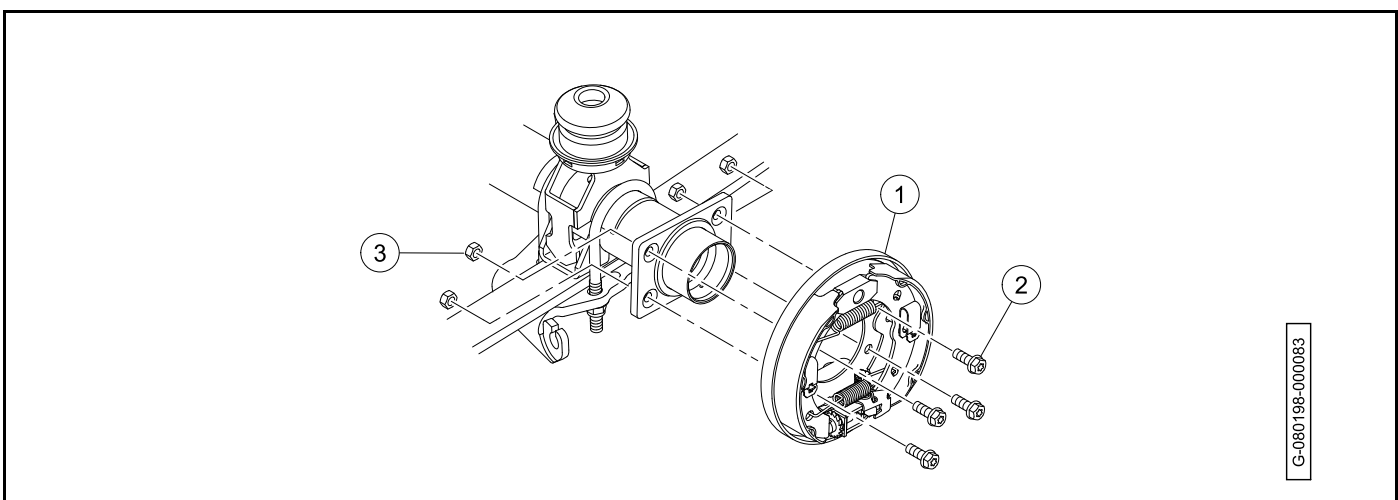

Figure 6-23
1. Install the brake cluster (1) on the spindle (**Figure 6-23**).